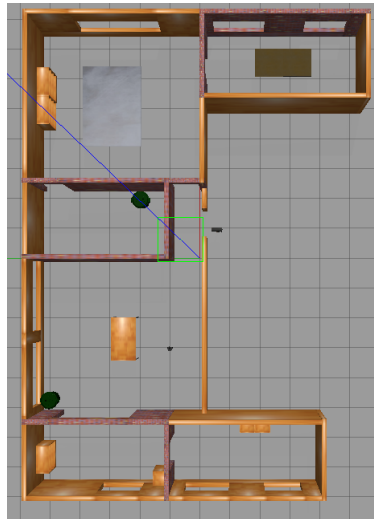

Figure 10: Simulated house environment for Turtlebot
**Task 7** (Lidar data registration) In this task, you should plot a map of your robot surroundings (Figure 10) using ranges from lidar, while following a straight path. More specifically you should provide a plot that contains all lidar measurements registered during the motion of turtlebot. Hint: Convert ranges to  $x, y$  points and associate them with the robot pose in the local coordinate frame.